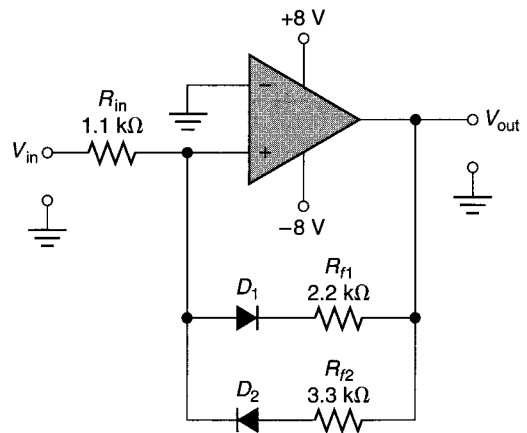

FIGURE 19.58
24. Determine the UTP and LTP values for the Schmitt trigger in Figure 19.58.